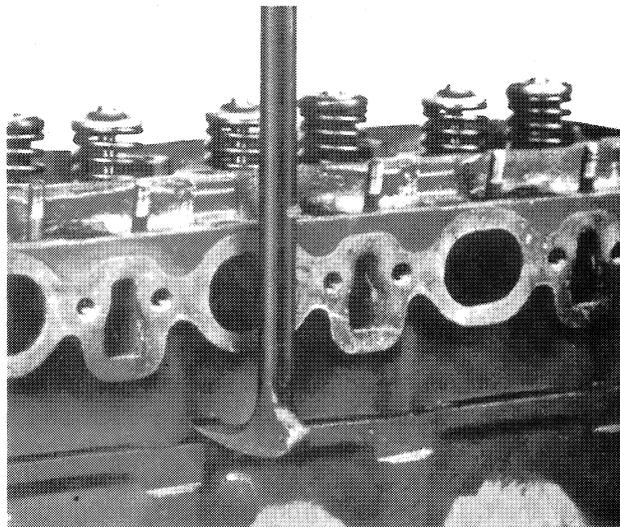

Figure 6
17. Lift the cylinder head from the block. If necessary lever the head off on the pads provided, taking care not to damage the cylinder head or block faces, Figure 6.